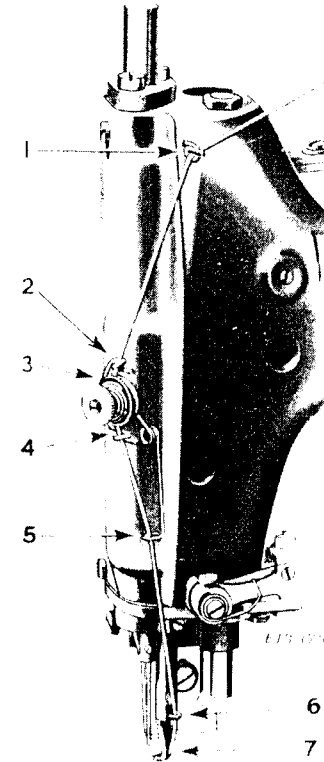
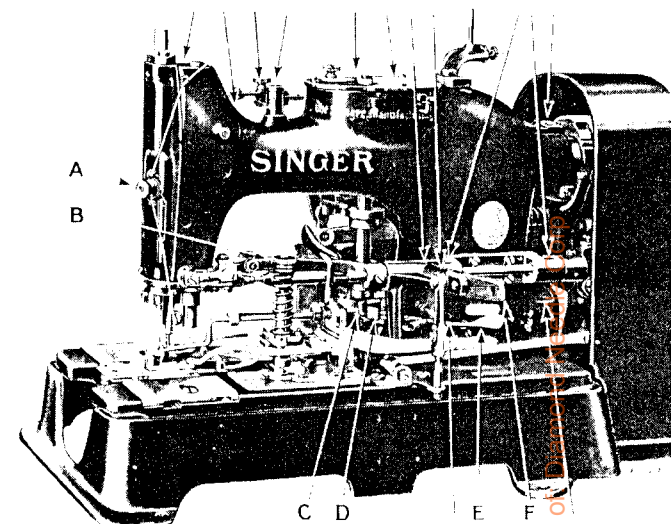

Fig. 12. Threading the Cord Finger
Fig. 16. Oiling Points at the Right of the Machine
The tension on the cord is regulated by the thumb nut (A, Fig. 16). To increase the tension, turn the thumb nut (A) over to the right. To decrease the tension, turn the thumb nut (A) over to the left. The tension on the cord should be sufficient to prevent overthrowing the cord at the point of the cord finger (7, Fig. 12).
To Thread the Cord Finger (See Fig. 12)
To ensure easy running and prevent unnecessary wear of the parts which are in movable contact, the machine must be oiled regularly. Oil should be applied at the places shown by arrows in Figs. 16, 17 and 18.